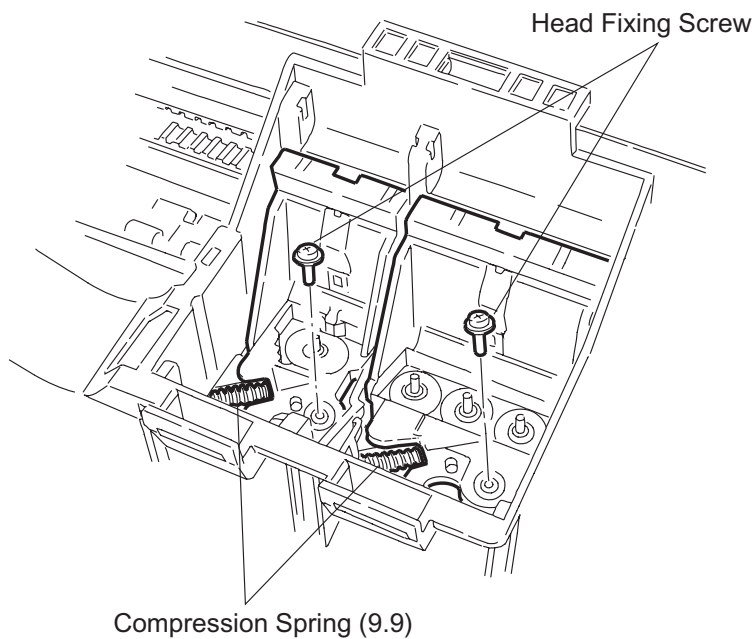

Figure 3-9. Screw and Spring Removal
5. Remove 2 compression springs (9.9 g) holding each printhead to the carriage. (See Figure 3-9.)